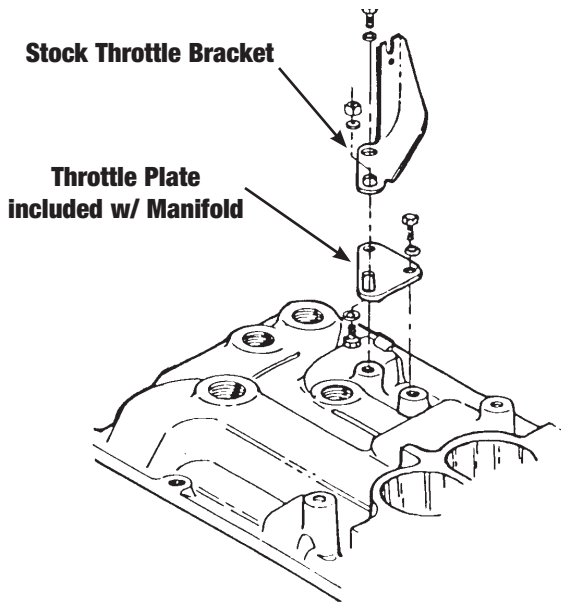

Figure 1 - Throttle Plate
- **THROTTLE BRACKETS:** Due to the design of Performer manifolds, the throttle and kickdown bracket on some vehicles may require modification to fit. When using Edelbrock carburetors, use #1490 or 1845 throttle plate kit. See Figure 1.